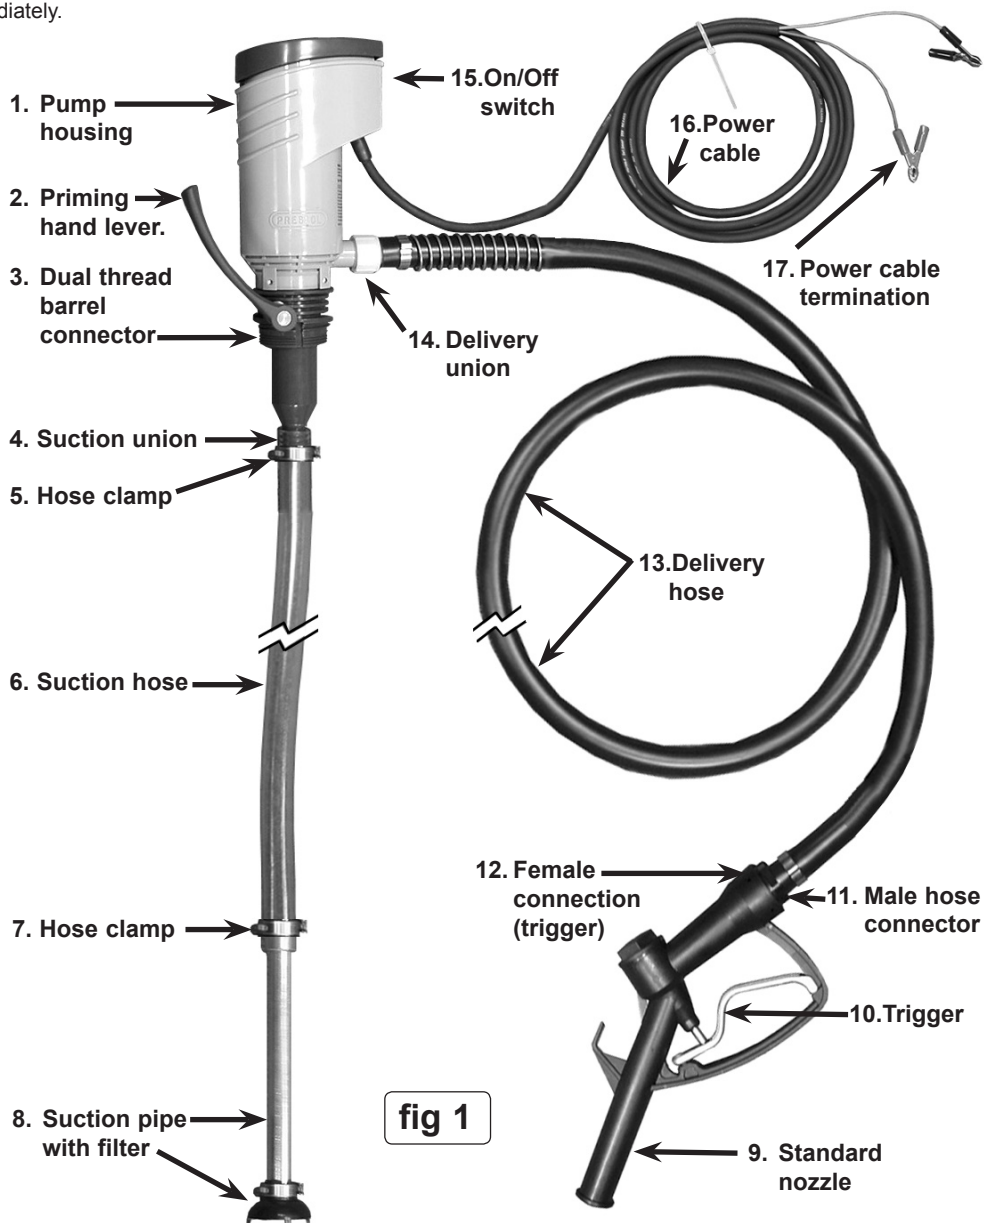

fig 1
3.2 ASSEMBLY. (Refer to fig.1)
3.2.8 Connect the pump to a suitable power source depending on which model you have. Ensure that the voltage of your pump matches the voltage of your power source. 230V models will have a mains plug attached. The power cables for 12 & 24V models are terminated with battery clips (see fig.1 - 17).